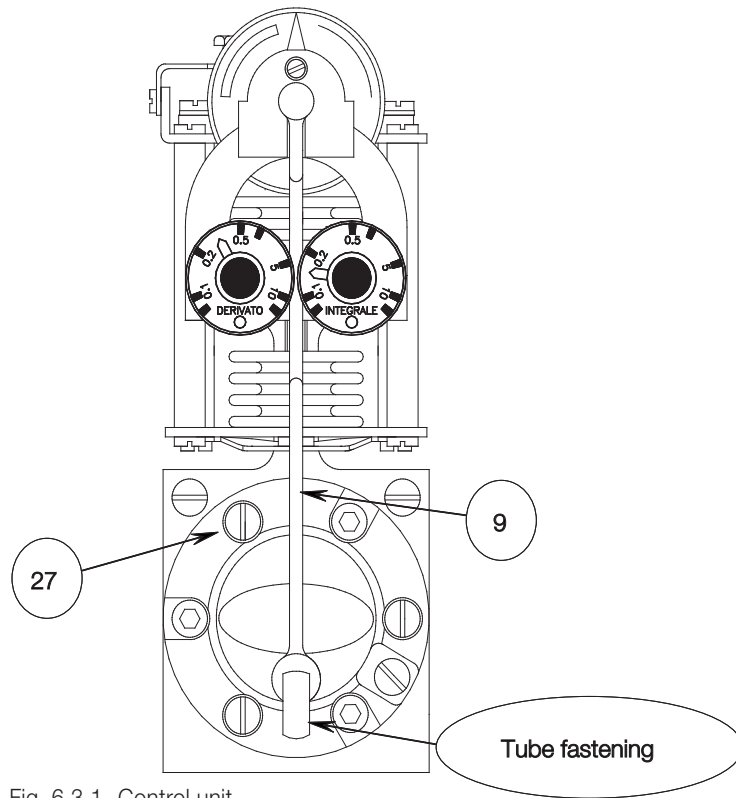

Fig. 6.3.1- Control unit
- 1) Loosen the tube fastening plate to the relay (9) (see Fig. 6.3.1).
- 2) Remove the bottom connection of the tube (9) (see Fig. 6.3.1).
- 3) Remove the three fastening screws (27) and extract the relay (see Fig. 6.3.1).